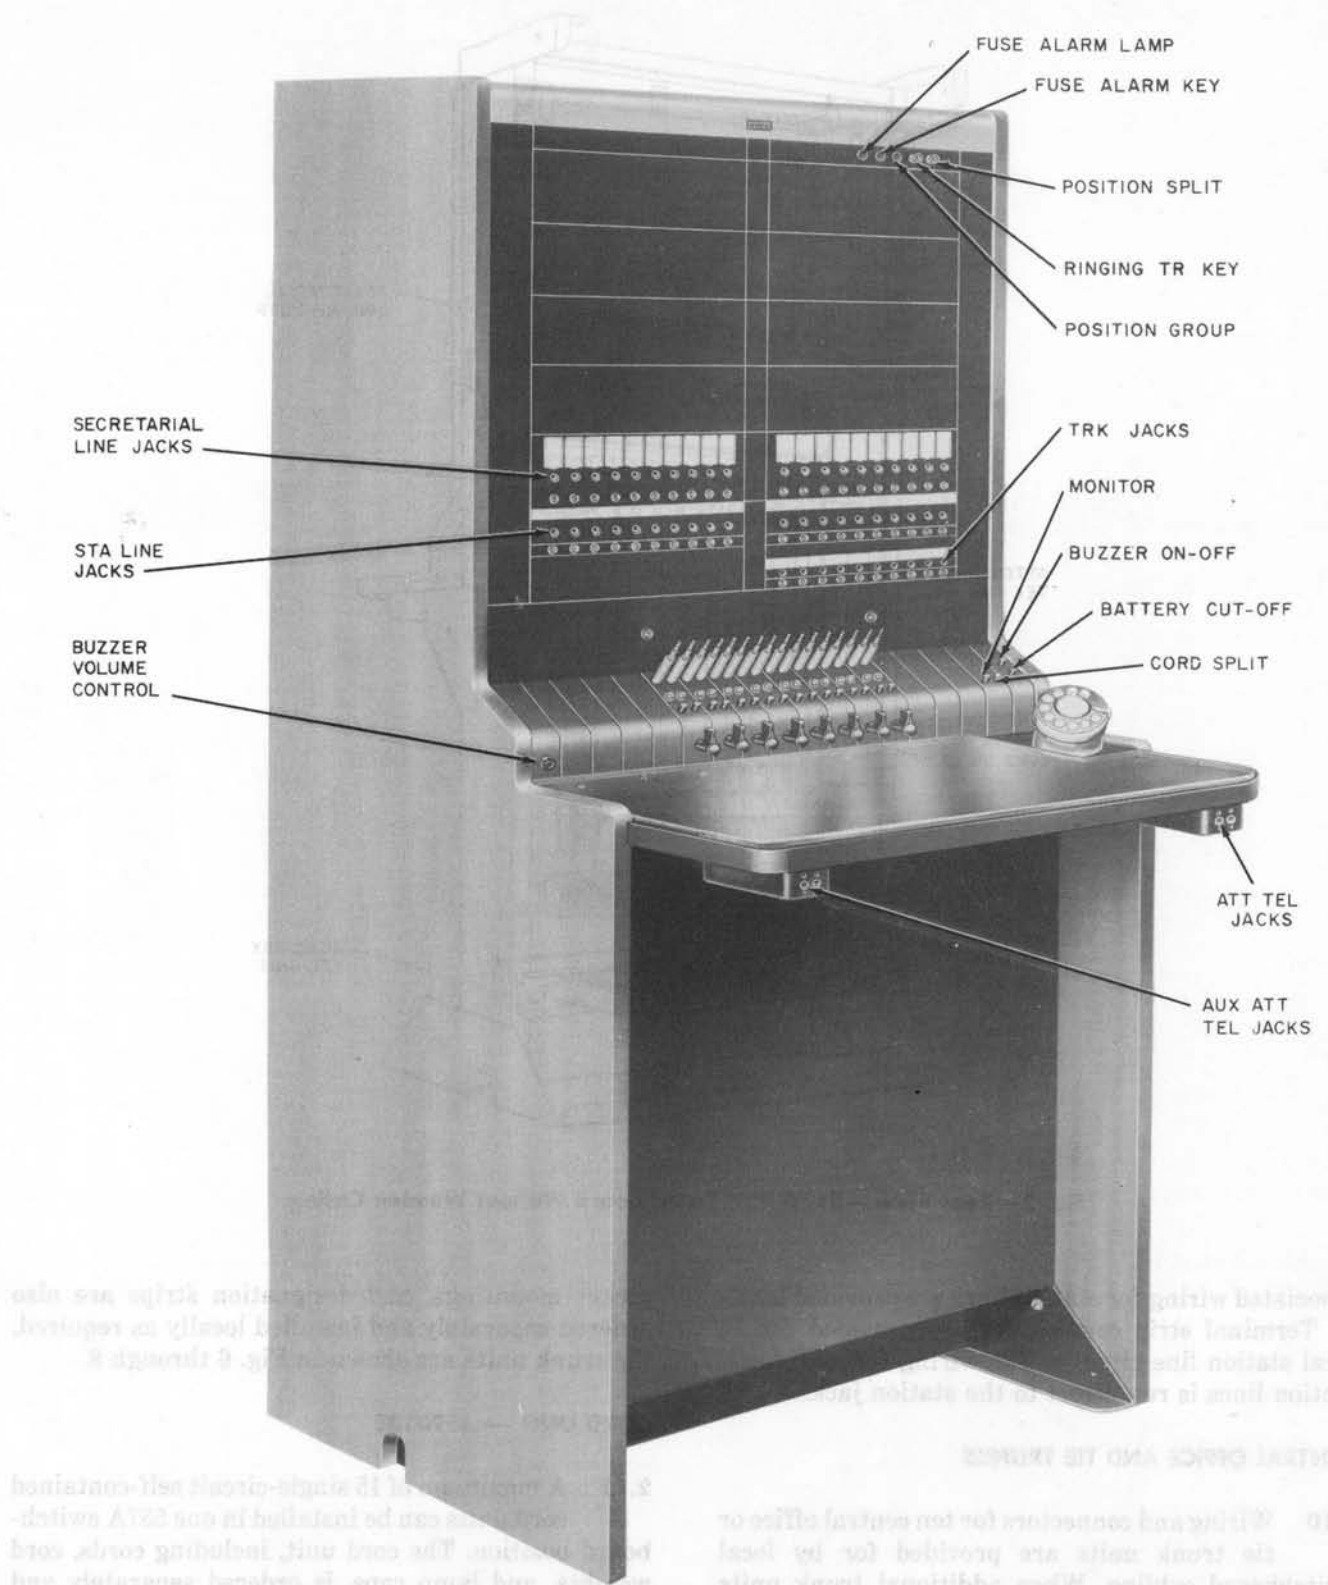
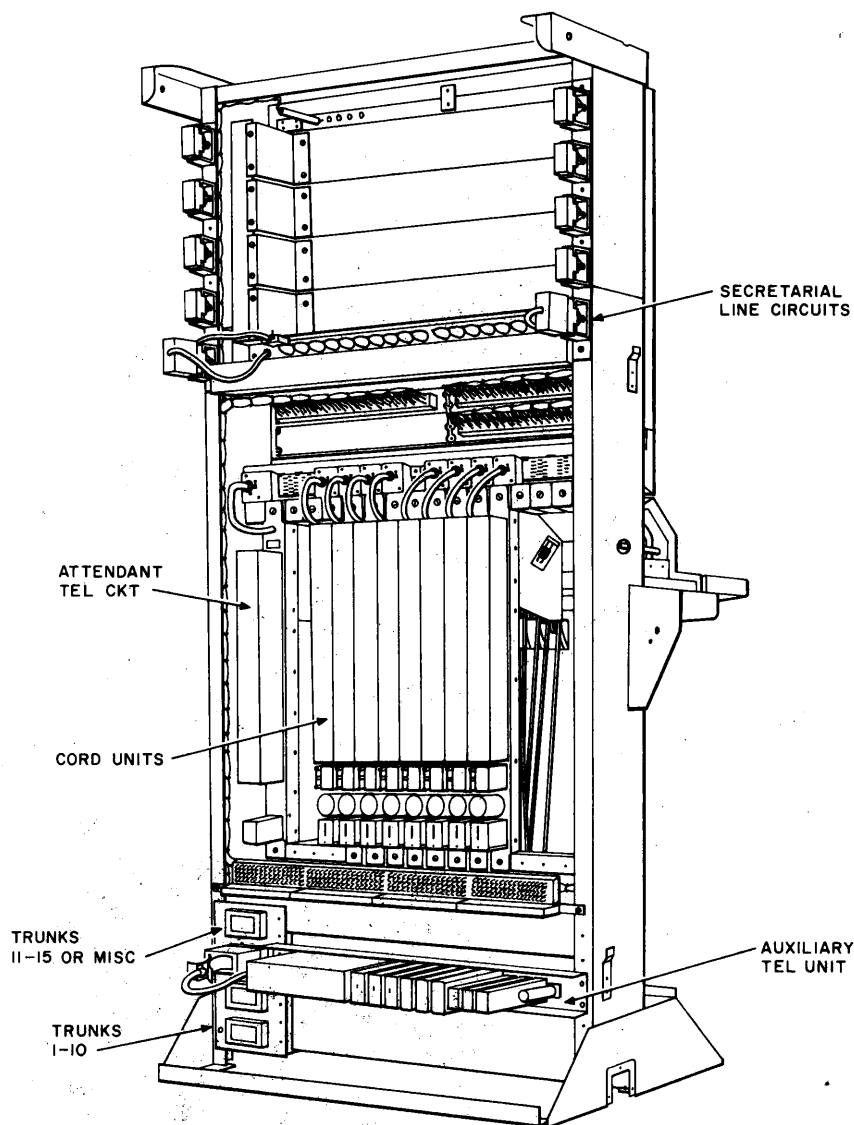

Fig. 1—557A PBX Switchboard
Fig. 2—Rear View—557A PBX Switchboard Without Wooden Casing
2.01 The 557A PBX (Fig. 1) is a single or multiposition manual switchboard designed to serve as a combined PBX and secretarial answering service switchboard (direct and concentrator-identifier) at bureaus furnishing answering service to telephone subscribers. Secretarial lines have single jack and lamp appearances in the face of the switchboard. Station lines and trunks may have either single or multiple jack and lamp appearance in the face of the switchboard. A rotary or TOUCH-TONE calling dial, ordered separately and installed locally, is required for completing calls to central offices and other dial system PBXs.
2.03 The switchboard (Fig. 2) is constructed of a steel inner framework on which the equipment is carried. A wooden casing to enclose this framework must be ordered separately and installed locally. The enclosed switchboard is 2 feet 5-3/8 inches wide, 4 feet 11-3/16 inches high, and 2 feet 5-7/16 inches deep. The top of the writing shelf is 30 inches above the floor (Fig. 1).
2.12 An auxiliary telephone circuit, without dial, is furnished for use by a second attendant during peak load periods. The unit is located on a mounting plate in the bottom rear section of the switchboard (Fig. 2) and is under the control of the position-splitting key. The attendant telephone jack for the unit is located under the writing shelf on the left side.